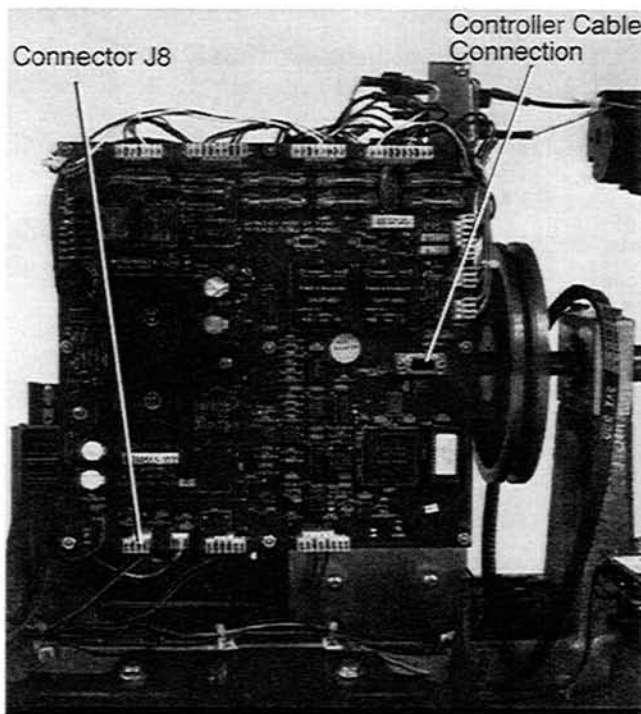

Figure 3-8. TMU PCB Assembly
2. Remove cable ties to connector J8 at the lower left corner of the TMU, then unplug this connector. See Figure 3-8.
5. Unplug all electrical connectors to the TMU PCB Assembly (Figure 3-8).
8. Unplug the control cable from the TMU PCB Assembly (Figure 3-8).